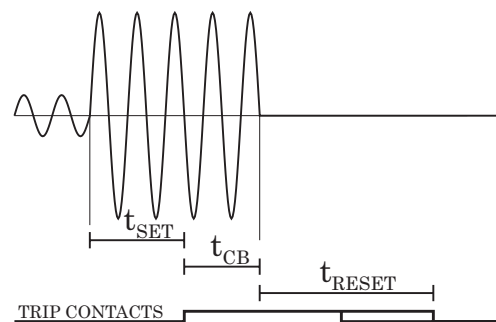

Figure 6.6: Reset time is the time it takes the trip or start relay contacts to open after the fault has been cleared.
Figure 6.6 shows an example of reset time, that is, release delay when the relay is clearing an overcurrent fault. When the relay's trip contacts are closed, the circuit breaker (CB) starts to open. After the CB contacts are open, the fault current still flows through an arc between the opened contacts. The current is finally cut off when the arc extinguishes at the next zero crossing of the current. This is the start moment of the reset delay. After the reset delay the trip contacts and start contact are opened unless latching is configured. The precise reset time depends on the fault size; after a big fault, the reset time is longer. The reset time also depends on the specific protection stage.